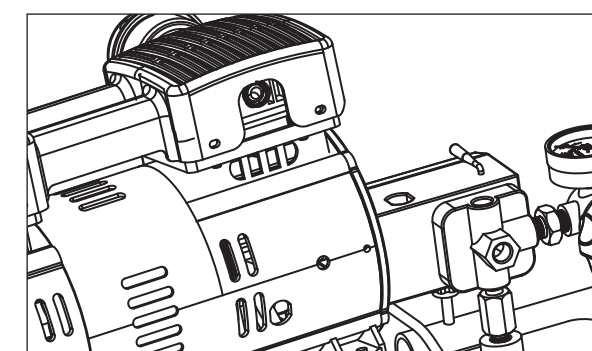

Figure 2
**Pressure Switch - Auto On/Off Switch** - In the "Auto On" position, the compressor shuts off automatically when tank pressure reaches the maximum preset pressure. After air is used from the tank and drops to a preset low level, the pressure switch automatically turns the motor back on. In the "Off" position, the compressor will not operate. This switch should be in the "Off" position when connecting or disconnecting the power cord from the electrical outlet. (Figure 2)